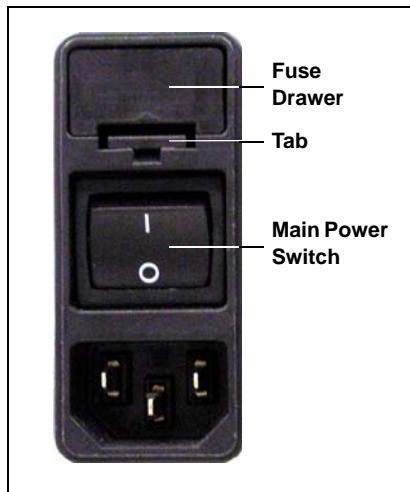

Figure 5-19. Fuse Drawer
2. The fuse drawer is located above the main power switch (see Figure 5-19). A small tab locks the fuse drawer in place. Using a small screwdriver, press the tab *in* and *then up* to release the fuse drawer.